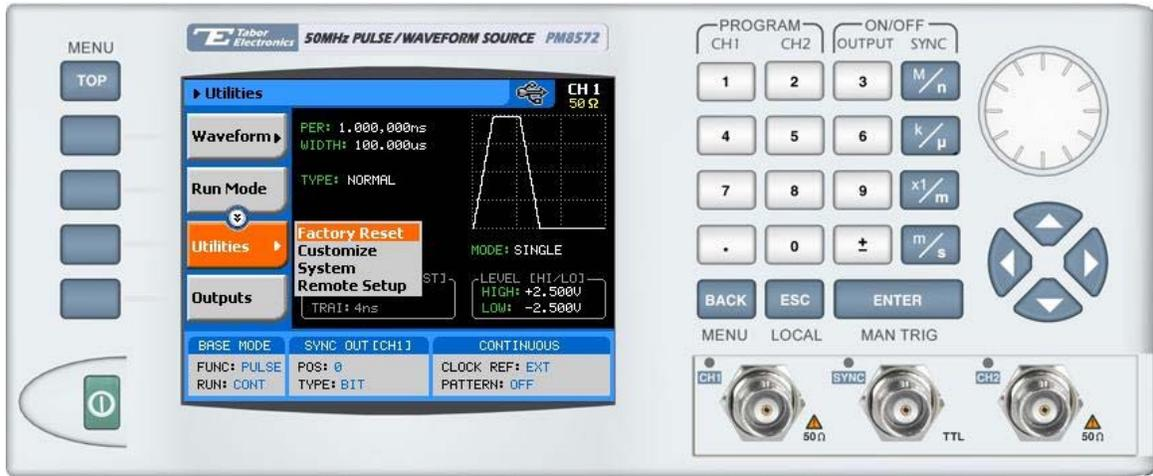

Figure 3-2, Reset PM8572A to Factory Defaults
Observe Figure 3-2 and reset parameters to factory defaults as follows:
The PM8572A has over 300 parameters that control functions, modes, waveforms and auxiliary functions. Due to the complexity of the product, the functions were divided to logical groups and sub-groups and access to these groups is provided using the soft key menus. There are five main menus, of which can be accessed after pressing the TOP soft key; These are shown in Figure 3-2 and are mark as item 3 (A, B, C and D). The main menus are Waveform, Run Mode, Utility, Outputs and Auxiliary. Each main menu provides access to sub-menus as summarized in Tables 3-2 to 3-5. Note that the description in these tables is given for general understanding of what is available in terms of operating the instrument. For detailed instructions, check the appropriate section of the manual.